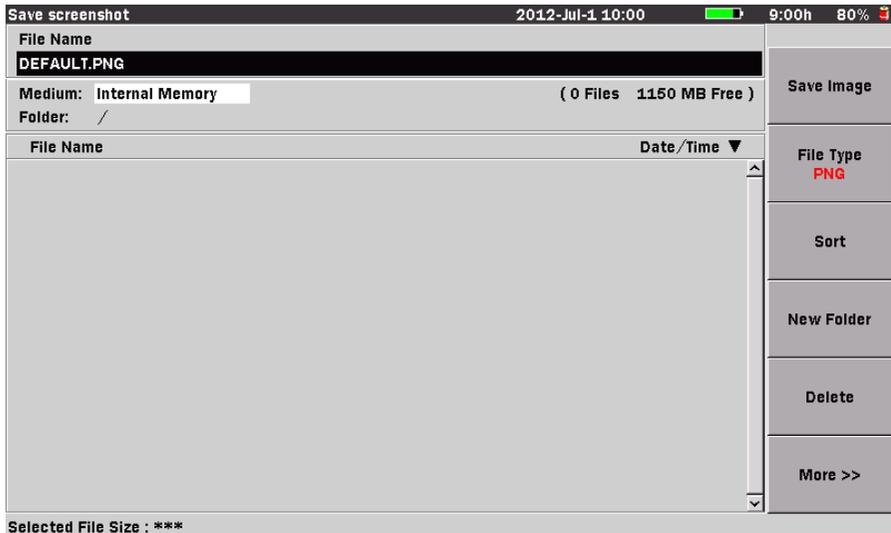

Figure 5-34: Save Screenshot Screen
4. Press **File (f2)**. The Save screenshot screen appears (see Figure 5-34).